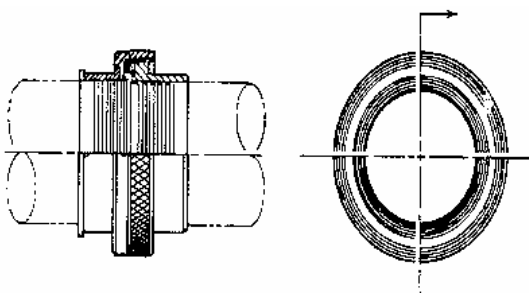

Figure 7. Full Coupling, Type 8305 (Size)
11. **Min-O-Mal Coupling Forms.** Min-O-Mal couplings are manufactured in two forms, full and shape (Figures 7 and 8). Shape fittings are tees, crosses, elbows, and "Y"s. Shape fittings have many of the same components as the full coupling and work the same way as the full coupling. Shape couplings will incorporate one or more parts conforming to WS65 or WS190 fitting.